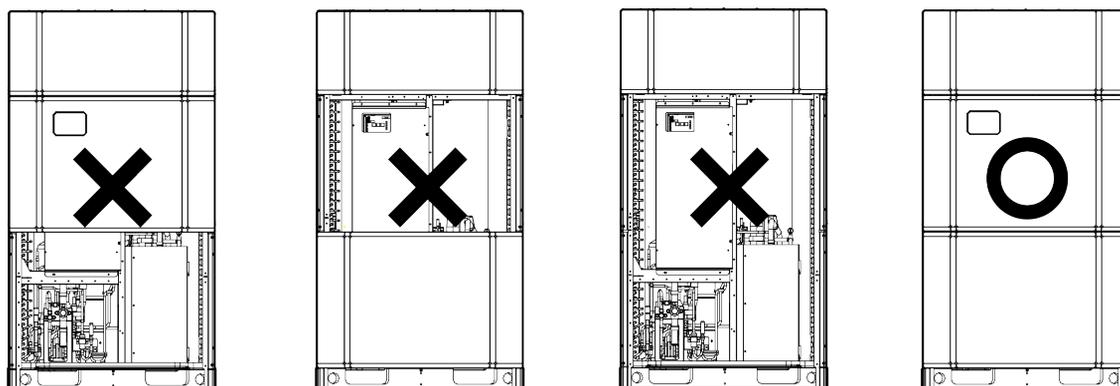

Fig.4.2.2
- (2) When starting up the debugging, the system automatically selects the operating mode according to the current ambient temperature.
(3) When debugging, the front panel of the outdoor unit must be completely closed, otherwise it will affect the accuracy of debugging (as shown in the Fig.4.2.2 as below).